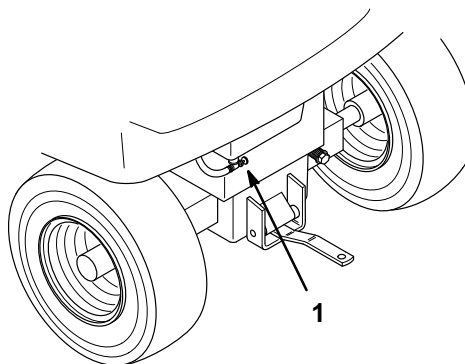

Figure 37
- Close the fuel shut-off valve at the fuel tank (Fig. 37 & 38).
2. Close the fuel shut-off valve at the fuel tank (Fig. 37 & 38).
7. Open the fuel shut-off valve at the fuel tank (Fig. 37 & 38).